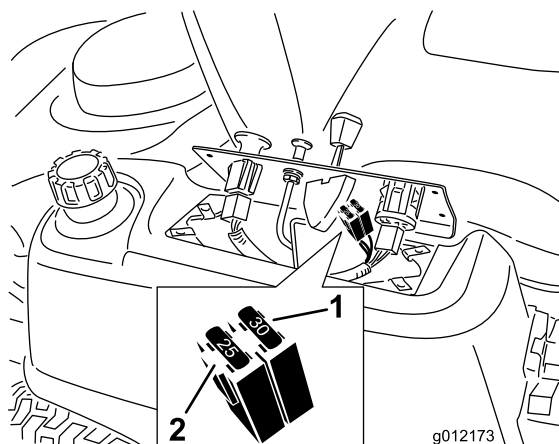

Figure 39
2. Lift the control pane up to access the main wiring harness and fuse block (Figure 39).
3. To replace a fuse, pull out on the fuse to remove it (Figure 39).